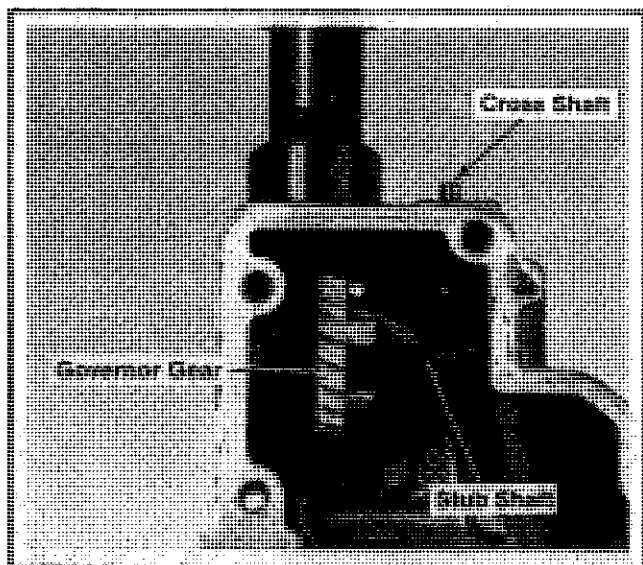

Figure 11-8. Installing Governor Gear.
2. Install the governor gear to stub shaft. Refer to Figure 11-8.